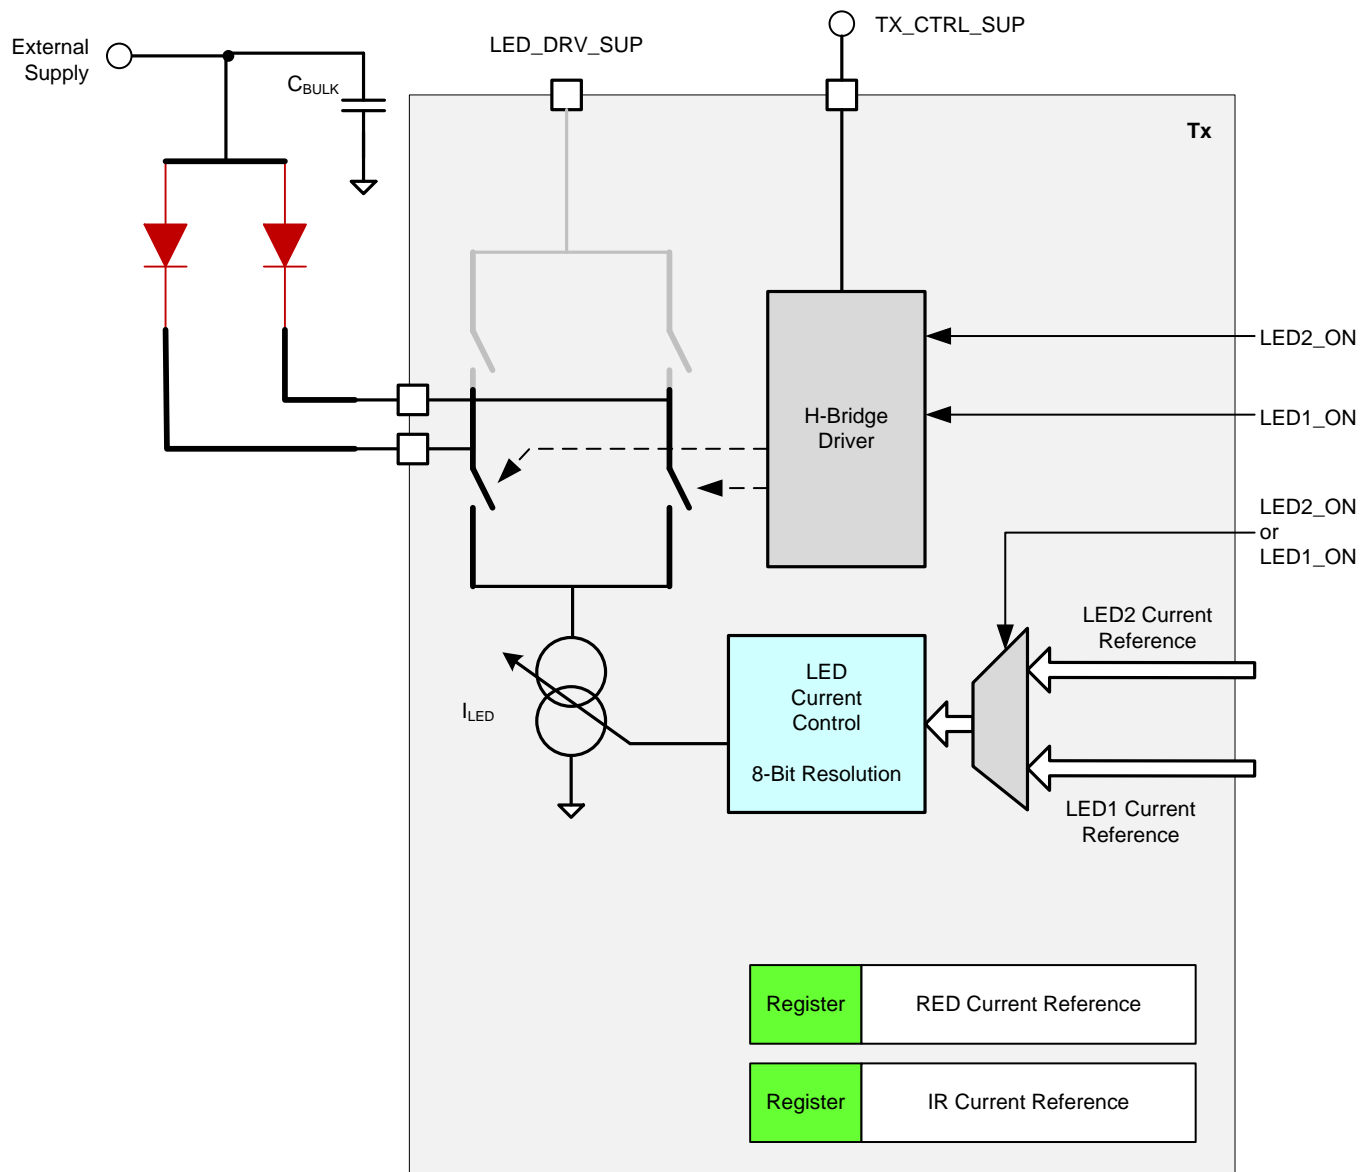

Figure 67. Transmit: Push-Pull LED Drive for Common Anode LED Configuration
- A push-pull drive for a three-pin, common-anode LED package; see Figure 67.